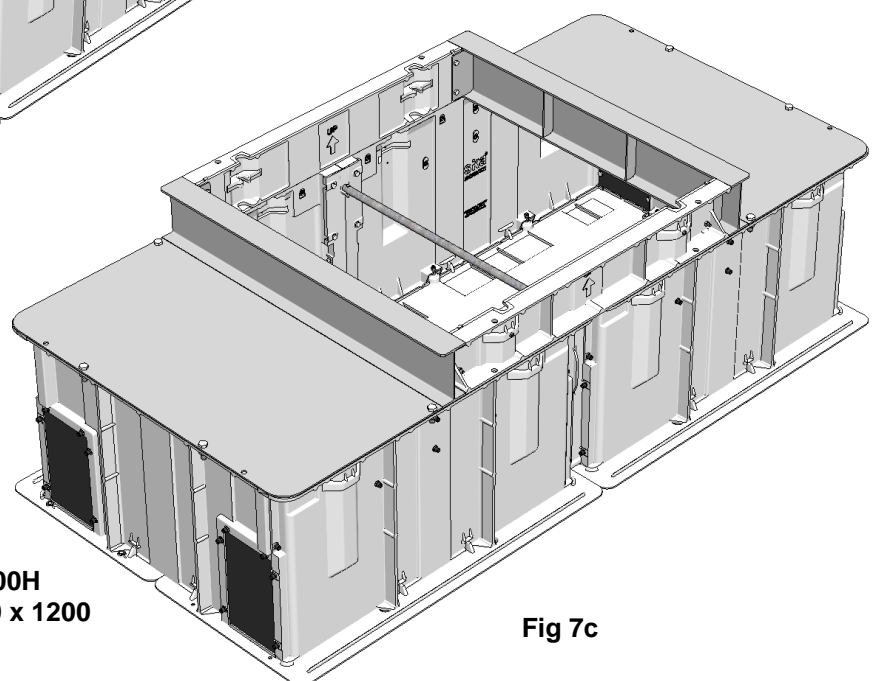

**Fig 7a**
7. Assemble **chamber roof extension side** and **chamber roof 700** as per Fig 7a using the 8 – M10 x 30 bolts and washers supplied. Place on top of chamber flange. See arrows for right way up.